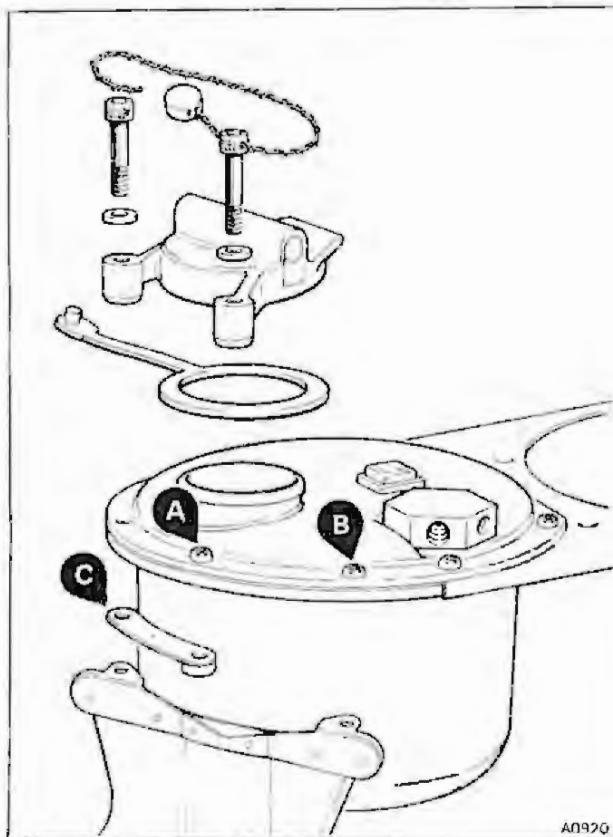

Fig. 8 Modified end support
- 2 Remove the Phillips headed screw and nut from the rear reservoir cover (see fig. 8 item A).
- 5 Carefully ease the reservoir assembly down until the Phillips headed screw (see fig. 8 item B) can be started in its securing nut. Do not fully tighten at this stage.
- 10 Position the new locking plate supplied with only one captive nut (see fig. 8 item C) between the top of the new end support bracket and the reservoir assembly. Firmly secure the new filler cap using the socket capscrews supplied.
- 11 Tighten the Phillips headed screw in the rear reservoir cover (see fig. 8 item B).